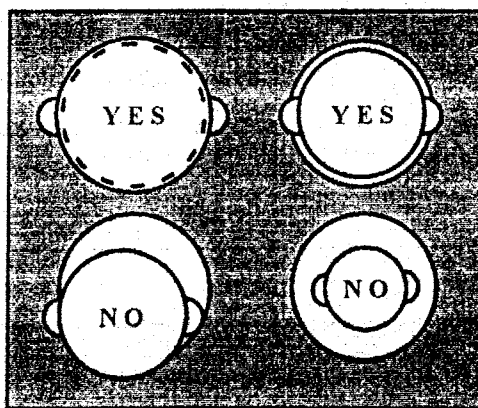

Fig.2
- Be sure the pan is the same size or slightly larger than the heating element (Fig.2). The size and location of each element is indicated by the graphics design on the cooking surface.